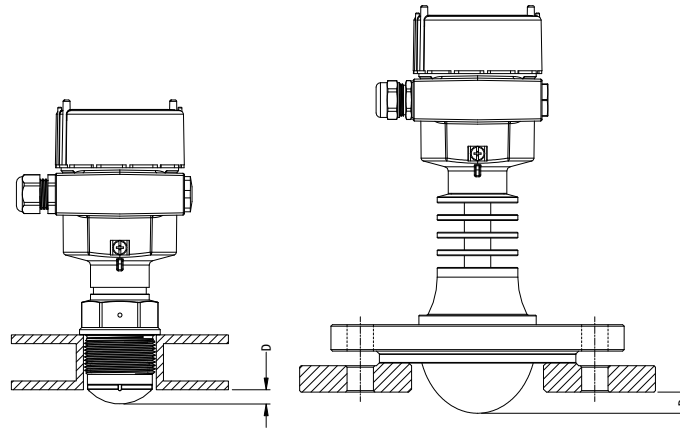

Figure 6
- Pipe Joint Installation — Short Joint: When connecting the radar instrument with a short pipe joint via threading, the radar antenna tip should extend at least 10mm beyond the pipe joint, as shown in Figure 6.